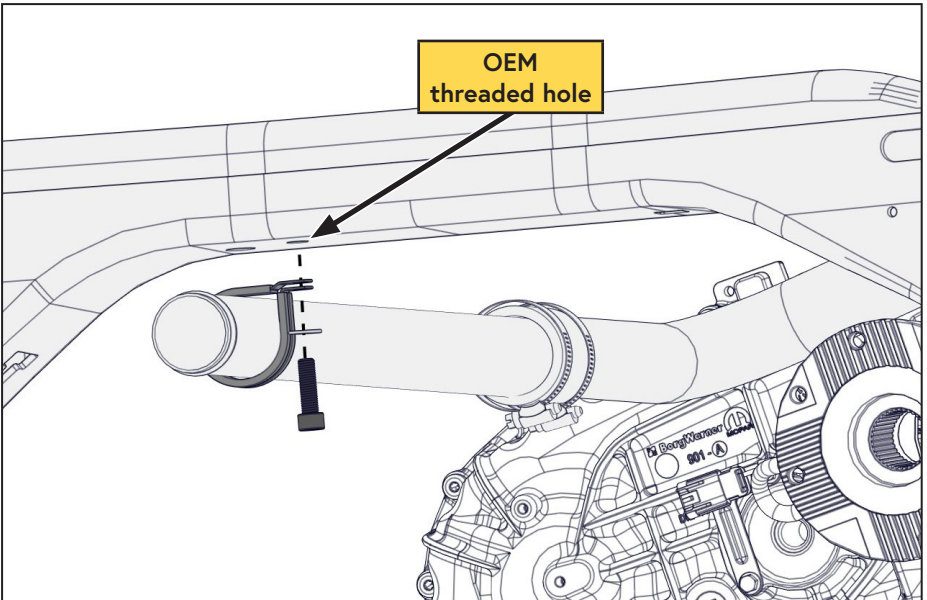

Figure 27 — Secure filter side intake tube
- ☐ Secure the intake tube extension to the cross member using the supplied P-clip, bolt, and washer (Figure 27).